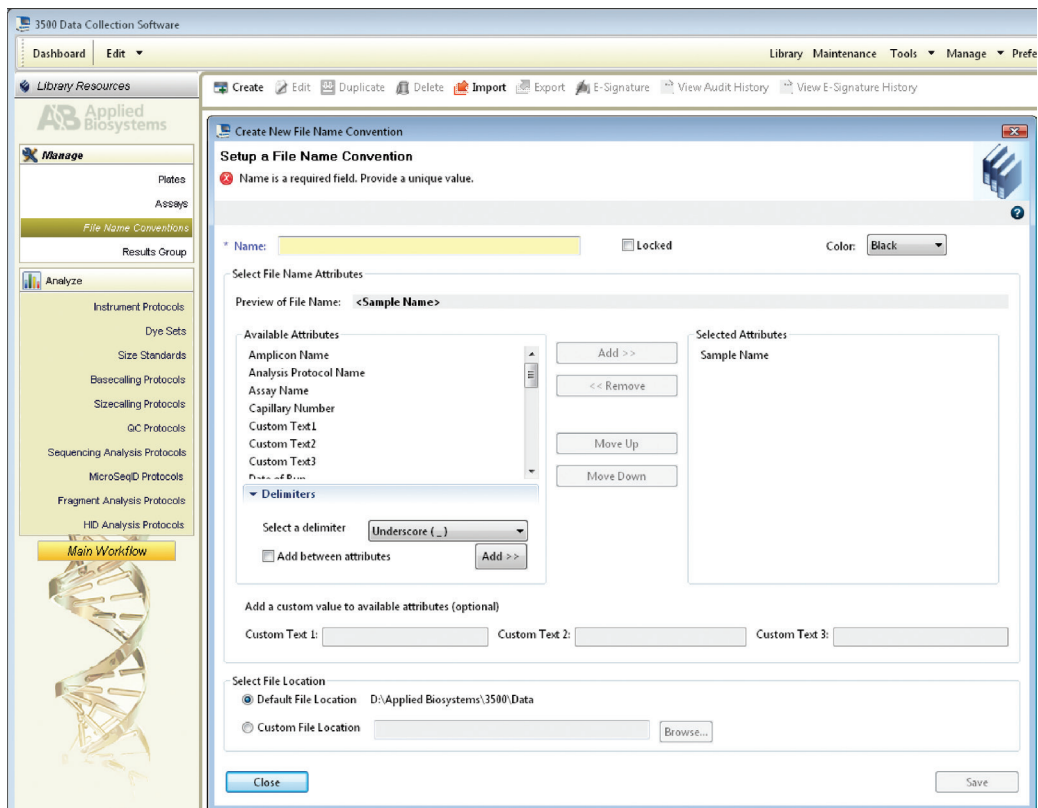

Figure 6. The 'Create New File Name Convention' window.
6. To create a new File Name Convention (Figure 6), navigate to the Library. Select **File Name Conventions**, then select **Create**. Alternatively, a previously created File Name Convention may be used.